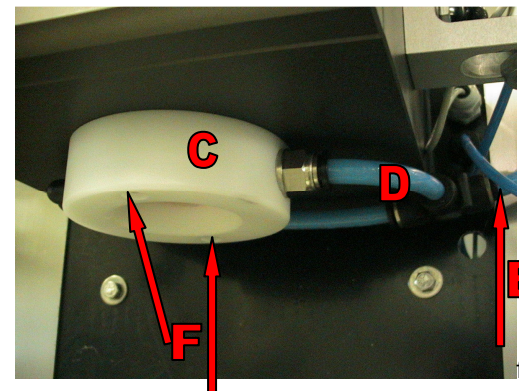

fig.2
- do disconnect the quick attack of the air diameter 8 mm where it is present (fig. 2, letter D)
- do unscrew the two screws of restraint and do remove the centrator bottle (fig. 2, letter E)
- do collocate the centrator bottle and do screw the two relative screws of blocking (fig. 2, letter E)
- do connect the pipe through the quick attack (fig.2, letter D)